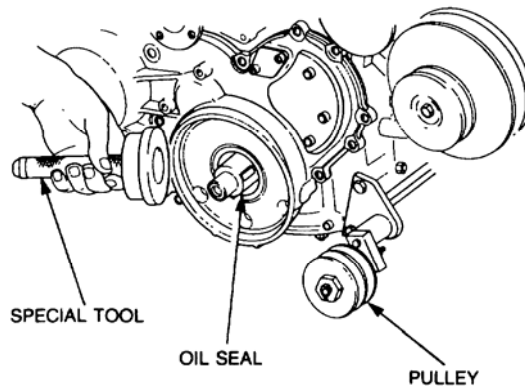

Figure 3 Installation of the Crankshaft Front Oil Seal
- a. Lubricate the outer surface of a new seal with clean engine oil, then position the seal on the timing case cover. Install the seal using special tool 18GA092 (Figure 3).